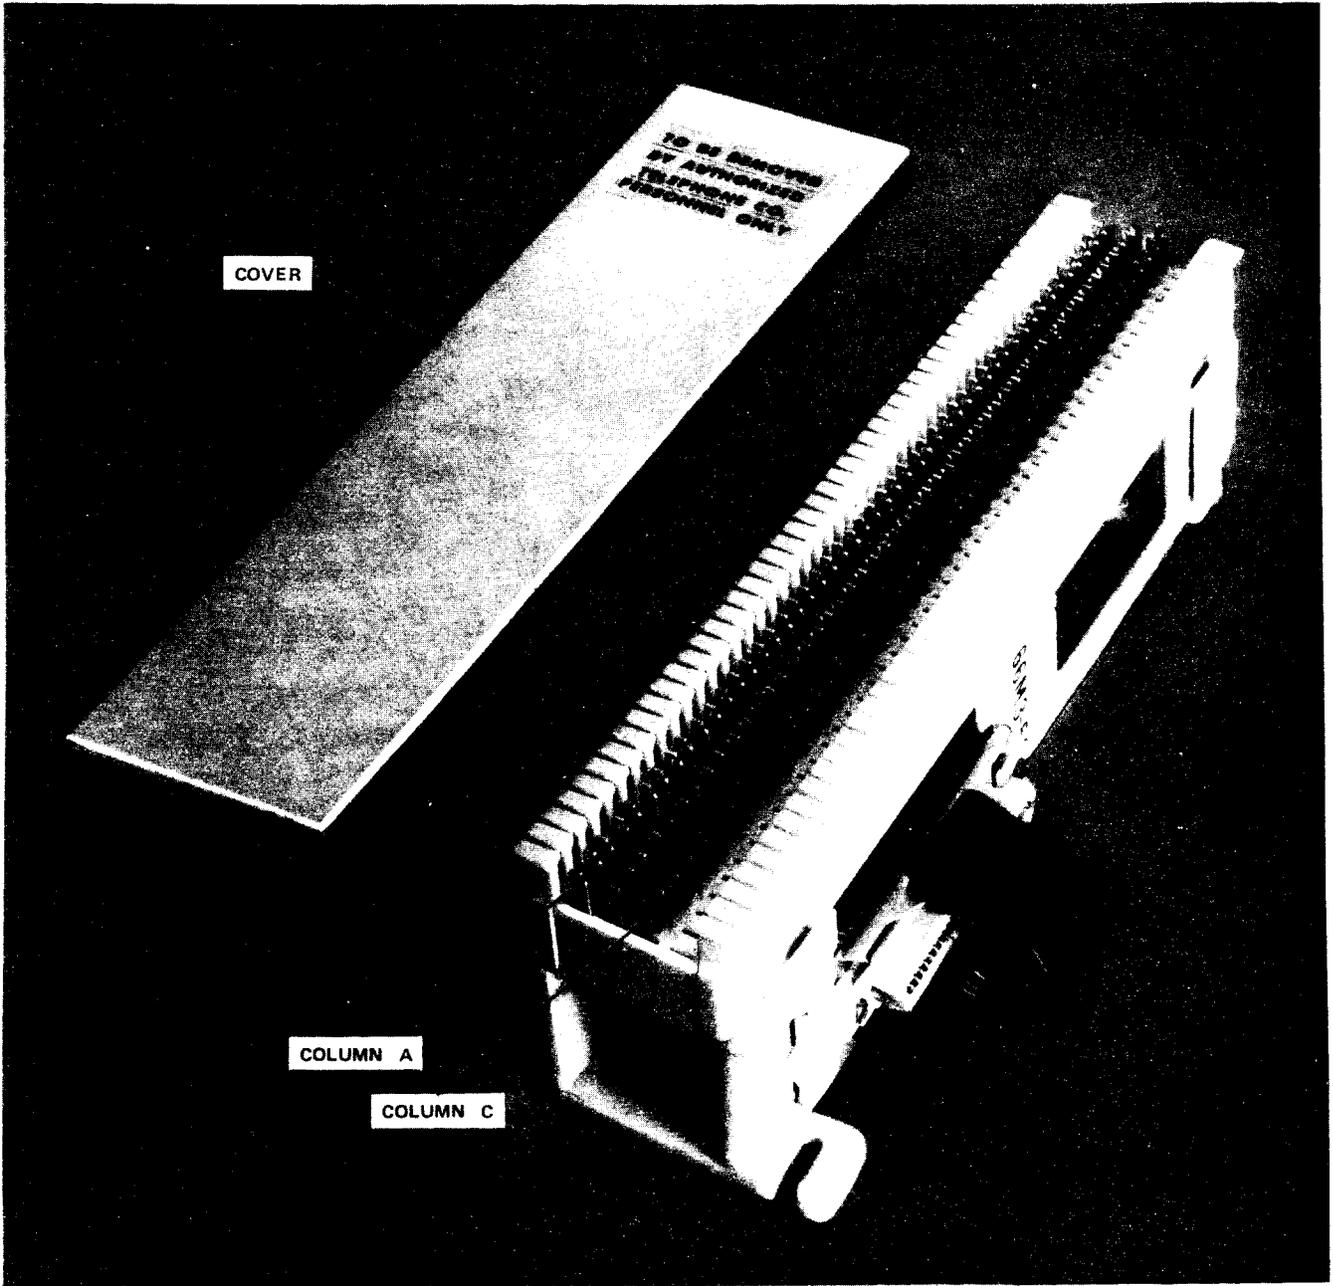

Fig. 1—66M3-50R (MD) or 66M4-50R (MD) Connecting Block (66M3-50R |MD| Shown)
2.01 The 66M3-50R connecting block (MD) (Fig. 1) is intended to serve as a network interface unit as required for the Federal Communications Commission (FCC) Registration Program for key telephone systems (KTSs) (except COM KEY® 416 key telephone system), PBX systems, and other communications systems such as automatic call distributors, switching systems, etc.